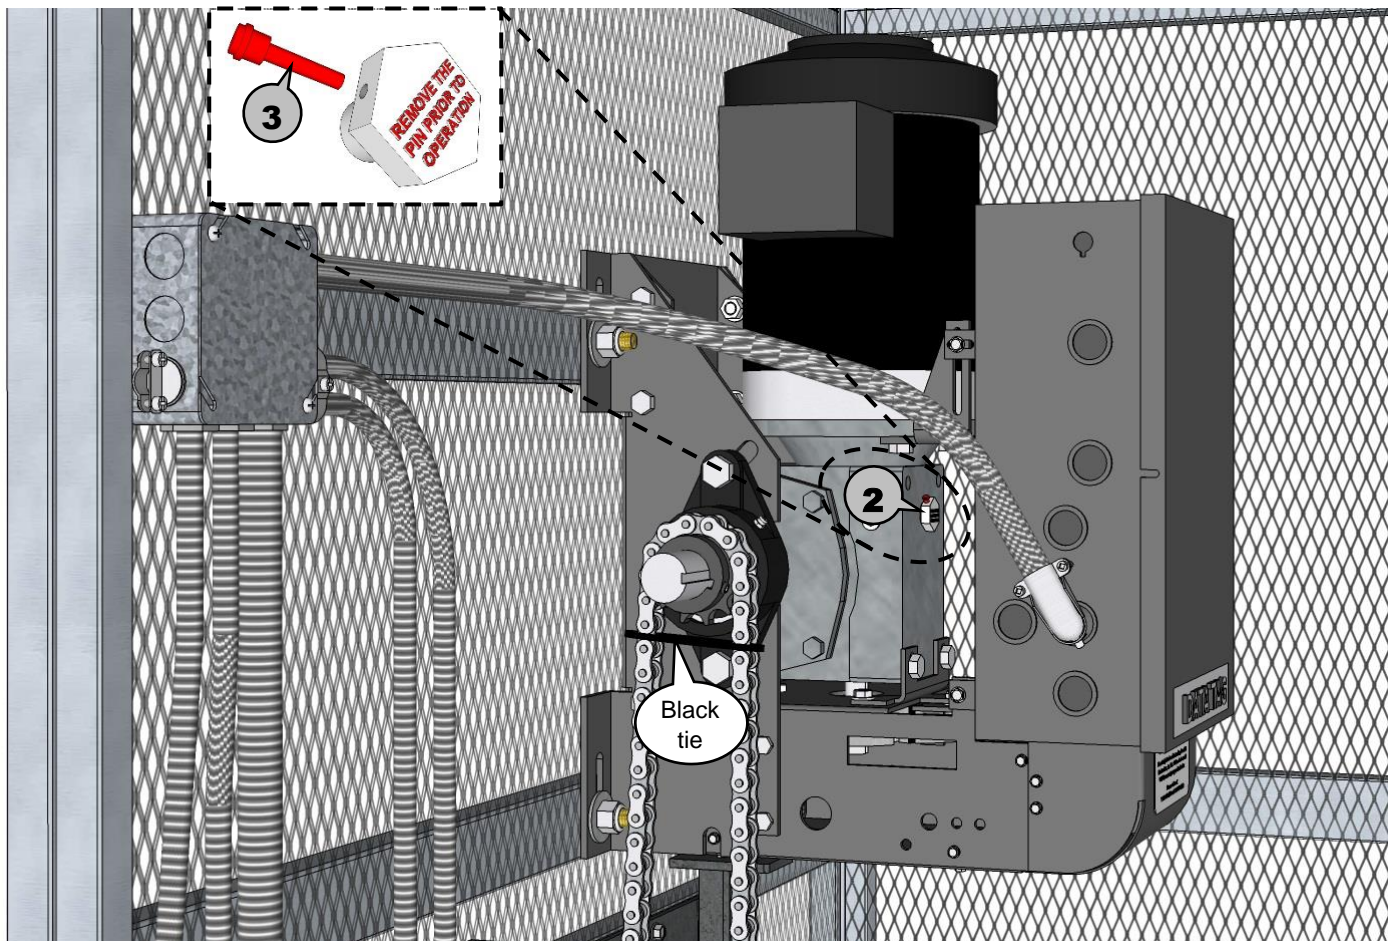

Figure 22
Do not overtighten! (see Figure 22)
(see Page 15, Figure 22)
- 7** Cut black plastic tie off. (see Page 15, Figure 22)